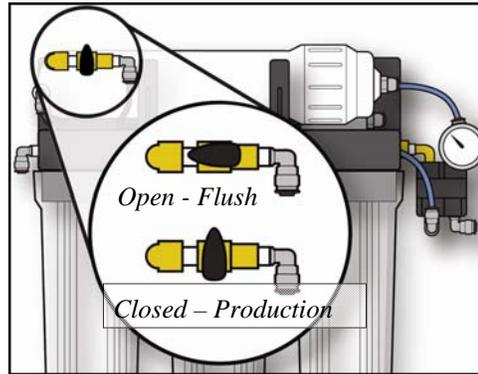

Figure 18, Manual Flush Valve
- 3) Put Flush Valve into the “Open - Flush” position. (See Figure 18, page 22)